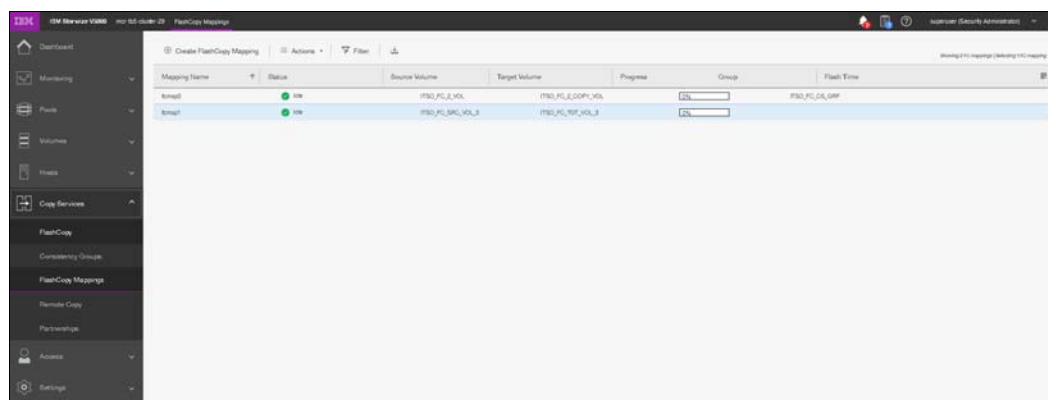

Figure 10-21 FlashCopy maps
7. Check the result of this FlashCopy mapping. From the main panel, click **Copy Services** → **FlashCopy Mappings** as shown in Figure 10-21.